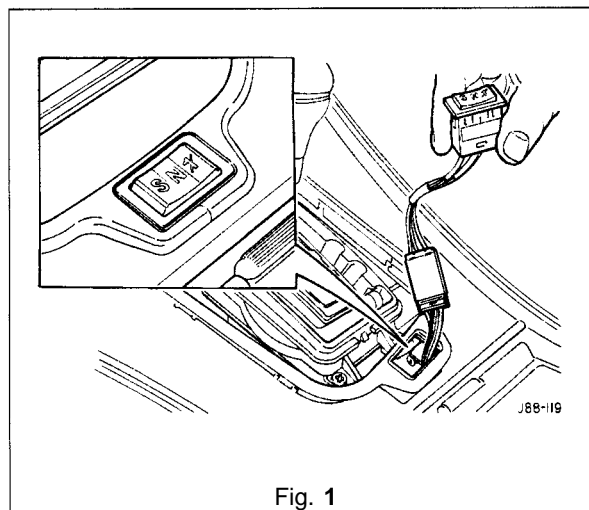

Fig. 1
- Remove the console ashtray, see subsection 13.3.28 and Fig 1.
- Remove the console ashtray, see sub-section 13.3.28 and Fig. 1.